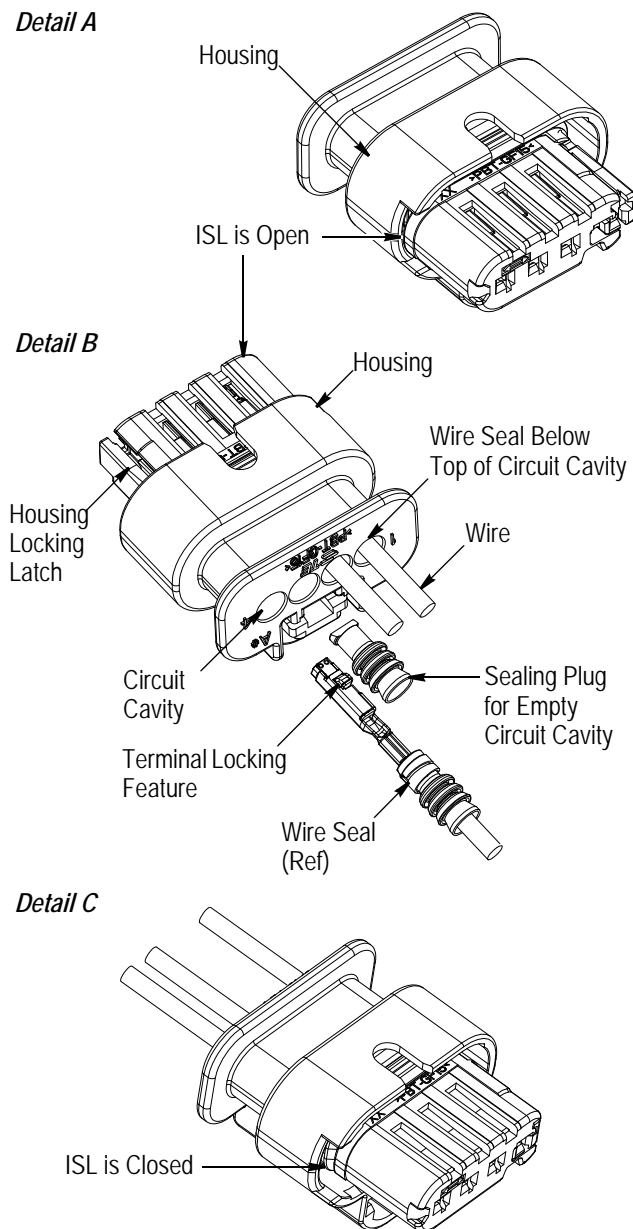

Figure 2
3. Make sure that the ISL is open as shown in Figure 2, Detail A. If it is not, open the ISL according to Paragraph 4.2.
- a. Align the terminal with the selected circuit cavity of the housing so that the terminal locking feature faces in the same direction as the locking latch of the housing. See Figure 2, Detail B.
c. Check that the wire seal is below the top of the circuit cavity. See Figure 2, Detail B. If it is not, press the protruding part of the wire seal into the circuit cavity, ensuring that it stays in place. If necessary, use a blunt probe with a rounded edge. Take care not to tear the seal. If the seal tears, the terminal and seal must be replaced.
5. Install a sealing plug into any empty circuit cavity. See Figure 2, Detail B.
6. After all terminals have been inserted, slide the ISL until it is closed. The ISL should be easy to close. See Figure 2, Detail C.